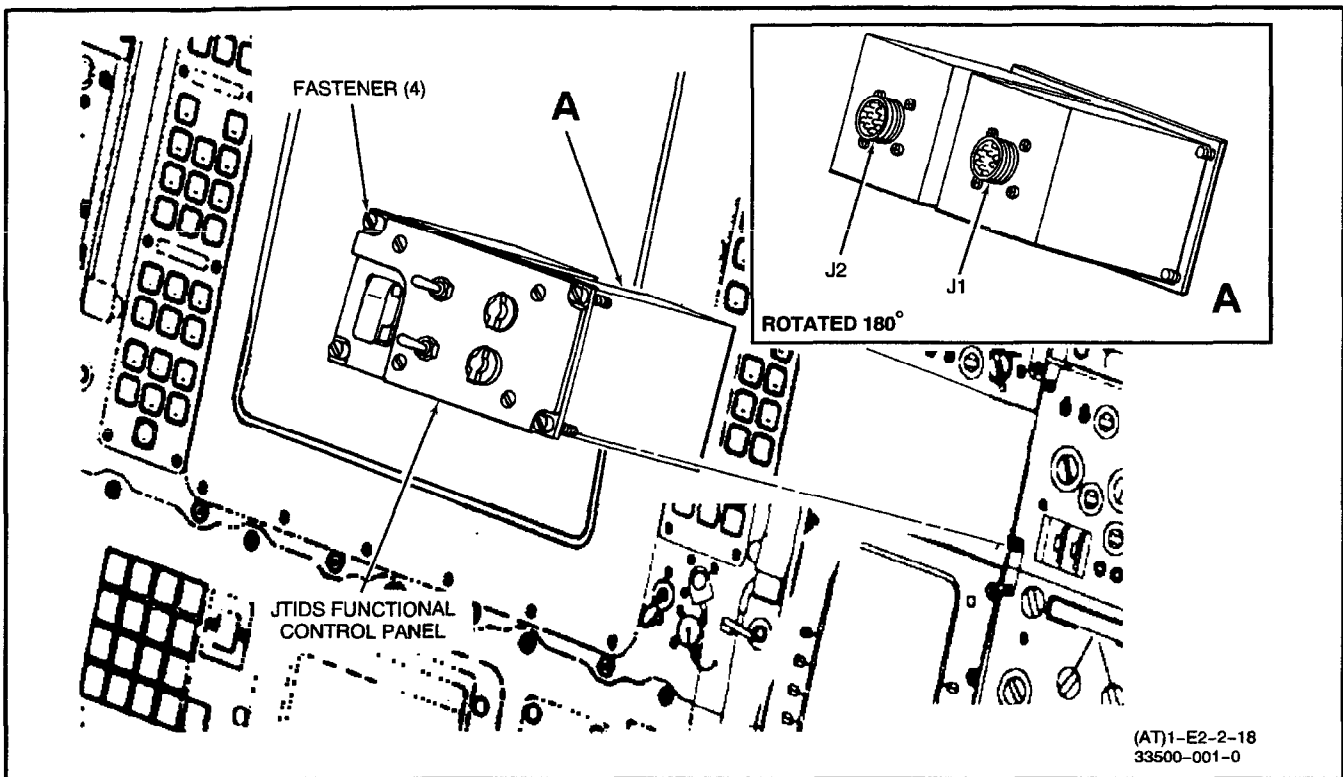

Figure 1. Removal and Installation of JTIDS Functional Control Panel in Crew Compartment, Left Side
**3. REMOVAL.** (Figure 1.)
4. **INSTALLATION.** (Figure 1.)